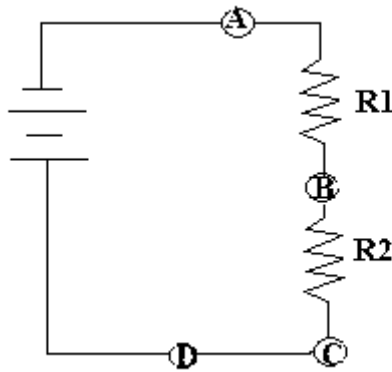

Figure 4-12 Circuit for exercise 3 and 4.
3. Consider the circuit shown in Figure 4-12.
4. Referring to the Figure 4-12, if you were to measure current where would you insert your meter?